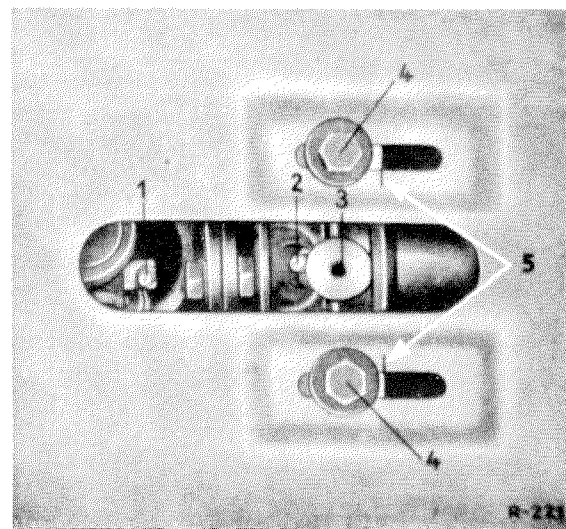

Fig. 01 — 1/5
13. Detach the cover plate for propeller shaft intermediate bearing. Mark the position of the bearing bracket on the chassis base panel (5).
Then unscrew the two fixing screws (4) and washers (see Fig. 01 — 1/5).